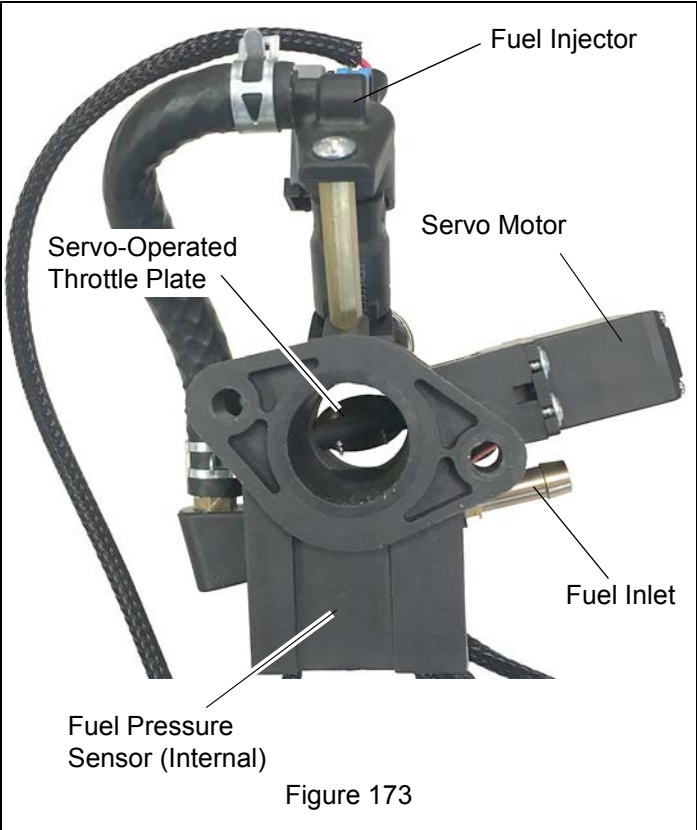

Figure 173
*Throttle body assembly consists of fuel injector, fuel pressure sensor and servo-operated throttle plate. See Figure 173.